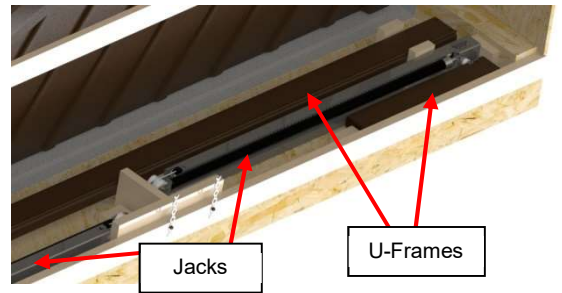

Figure 41
- 14) Remove the two long U-frame pieces, the two short U-frame pieces and both jacks located at the bottom of the crate. Lay these parts down in a safe place. (Figure 41)